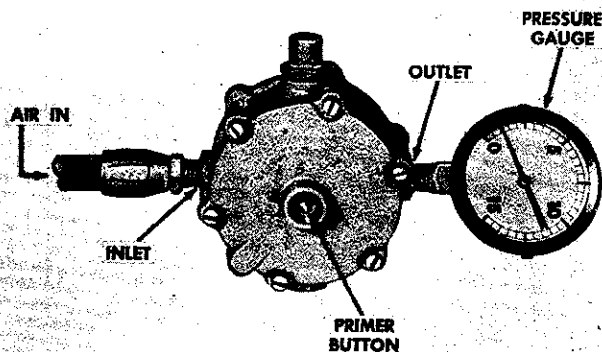

FIGURE 25
2. Connect regulator inlet to a source of compressed air or gas in excess of 25 PSI, depress primer button two or three times, connect a 0-15 lb. pressure gauge to fuel outlet and hold primer button in a depressed position. Pressure gauge should read approximately 2 PSI and remain steady. If pressure creeps up primary valve is leaking, clean or replace parts as necessary. Figure 25.